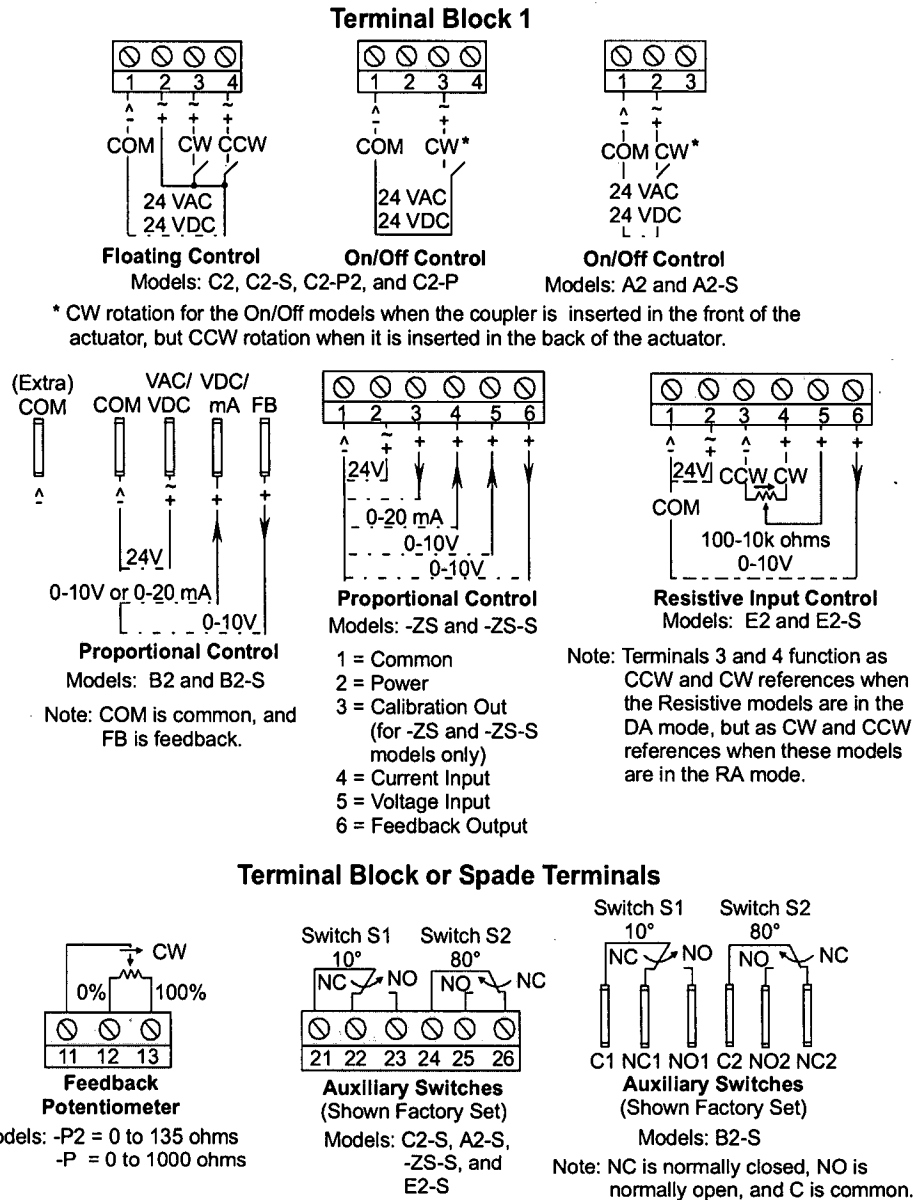

Figure 8: Wiring Diagrams for ES140 Models
Refer to Figure 8 for the applicable ES140 actuator.
3. Insert the cable wires through the hole in the conduit plug, and connect to the terminals using the appropriate wiring diagrams in Figure 8.
5. Insert the cable wires through the conduit adaptor assembly, and connect to the terminals using the wiring diagrams in Figure 8.
Reverse the control wiring connections at Terminals 3 and 4 to select RA operation for the C2x models. (See Terminal Block 1 in Figure 8.)